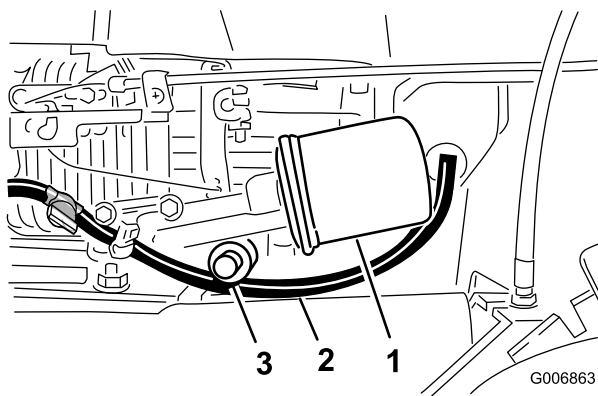

Figure 22
7. Open the oil drain valve (Figure 22) and drain the oil.
Replace the oil filter (Figure 22) after every 100 operating hours or yearly, whichever comes first.